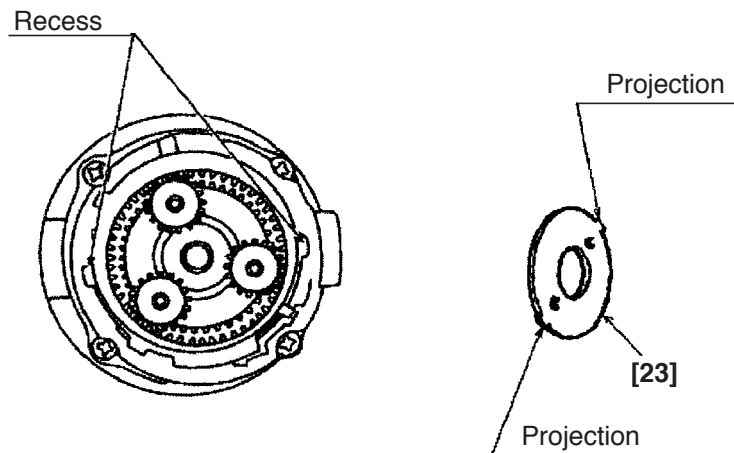

Fig. 14
- (iii) Install Washer (B) [23] in the Rear Case [14] with the projections of Washer (B) [23] engaged with the recesses in the Rear Case [14], and turn Washer (B) [23] clockwise until it can turn no further. (See Fig. 14.)